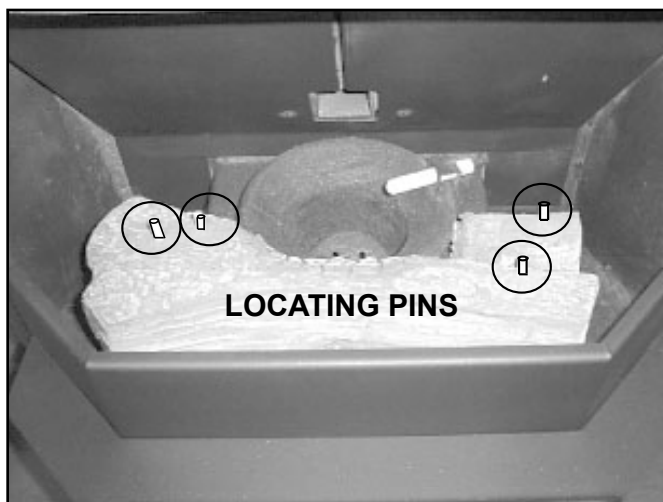

Figure 20.1
1. Place the front log in first as shown in **Figure 20.1**. Place log between firepot and face of appliance with charred area surrounding firepot.